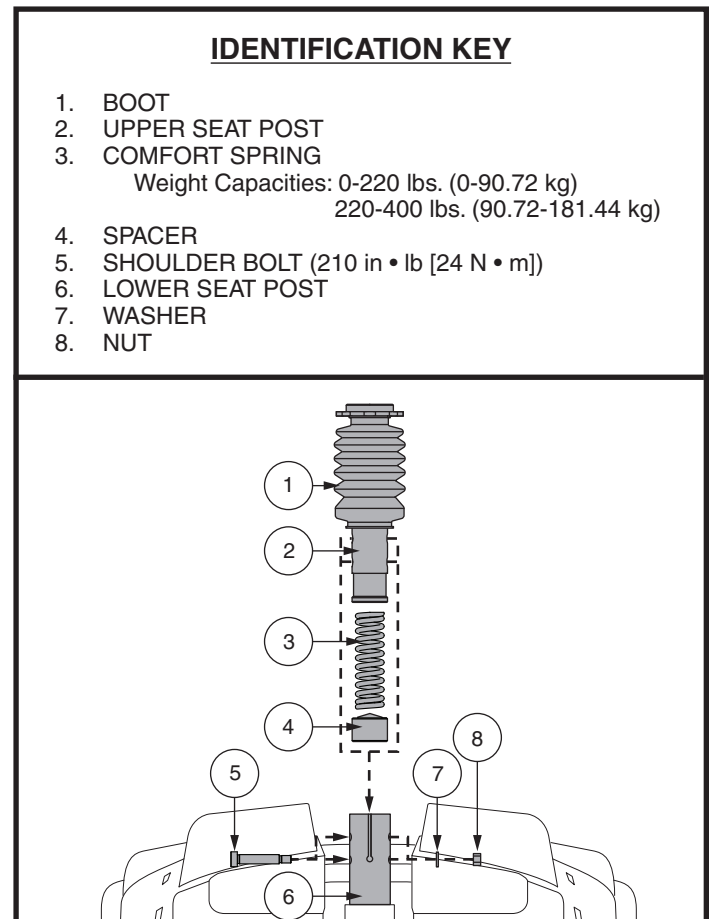

Figure 22. Seat Height Adjustment - Comfort Seat Post
4. Push down on the seat post while loosening and removing the shoulder bolt, washer, and nut. See **figure 22**.
6. Install the desired spring. **See figure 22.**